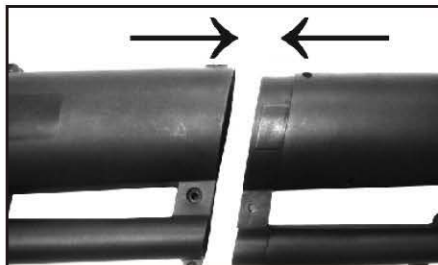

Fig. 1
- The suction/blowing pipes must be assembled before the machine is used. (Fig.1)
- **Blowing Mode:** Rotate the mode selection knob (10) so that the arrow of the knob points to the "blowing" icon (Fig.1). Ensure that when the knob is rotated it clicks into place.